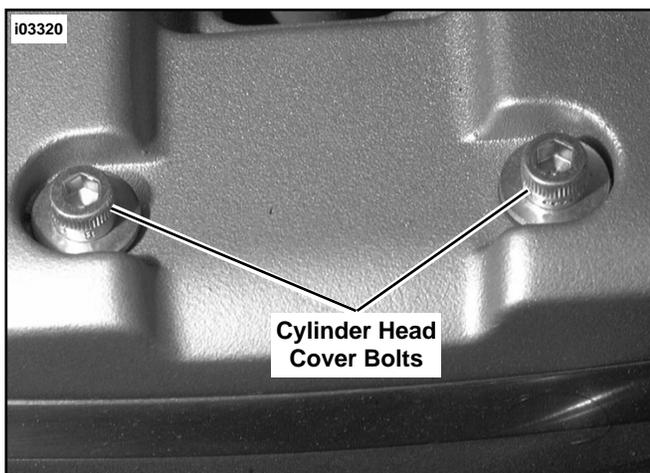

Figure 5. Remove Front Cylinder Head Cover bolts
10. See Figure 5. Remove front cylinder head cover bolts and discard.